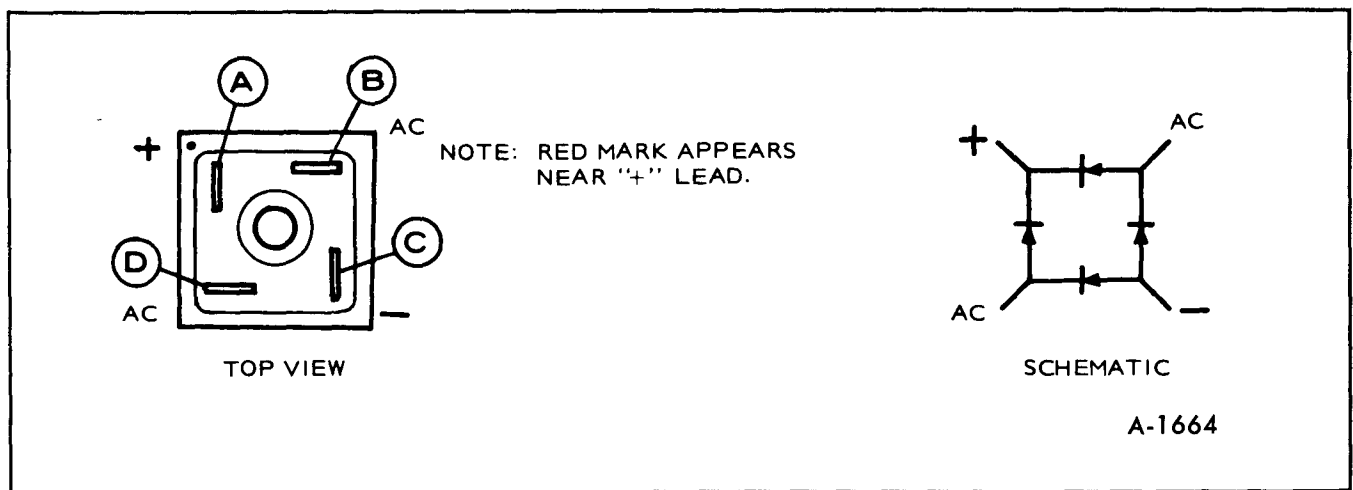

Figure 87—Testing Bridge Rectifier
5. Now place meter leads on points shown in Figure 87 and note readings from following table: